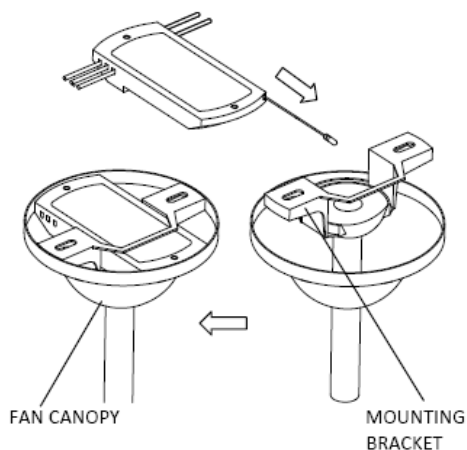

FIG 1
2. Once the connection has been made, the receiver inserts into the drop rod hanging bracket. The canopy comes up to cover the receiver and bracket. (FIG 1 and 2)